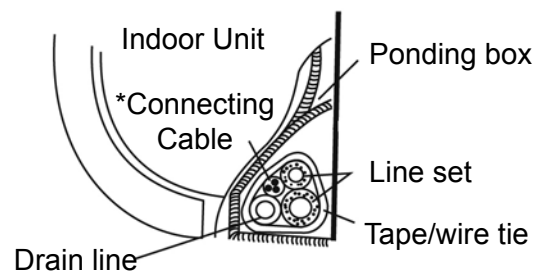

Fig. 17
- A. Bundle the tubing, connecting cable*, and drain hose with tape or wire ties as shown in (Fig.17).
- B. Be sure to arrange the drain line such that it is at the lowest point within the bundle as they exit the unit and hole in the wall to the outdoors. (Fig. 17)